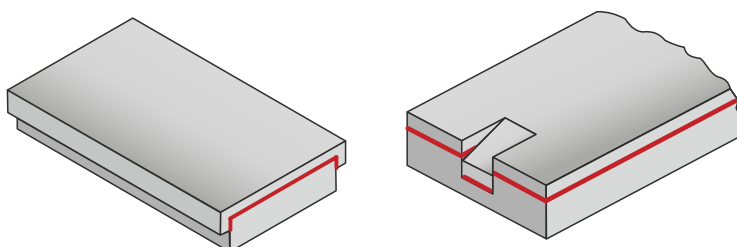

Fig. 33: Mechanical location of DU slideplates
- Mechanical location as shown in Fig. 33